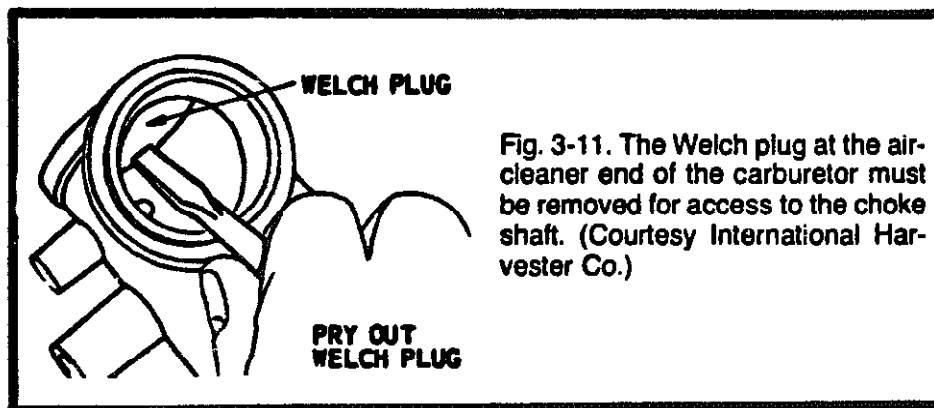

Fig. 3-11. The Welch plug at the air-cleaner end of the carburetor must be removed for access to the choke shaft. (Courtesy International Harvester Co.)
- To remove the nylon choke shaft, carefully unseat the Welch plug (Fig. 3-11). Insert a sharp tool between the shaft and choke valve to break the grip of the nylon. Withdraw the choke valve with a pair of long nosed pliers and remove the shaft. Upon installation, seal the Welch plug with liquid silicone.